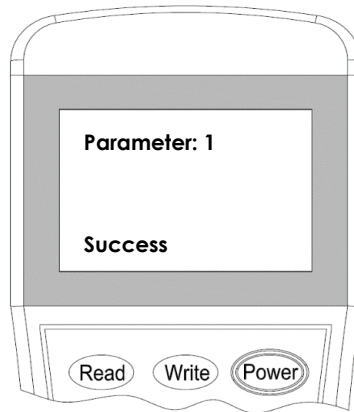

Figure 8
4. Input the **"1"** then press **"Write"** to change the setting (Figure 8) and the LED will turn off. To resume the default setting, press **"Clear"** and then press **"Write"**.